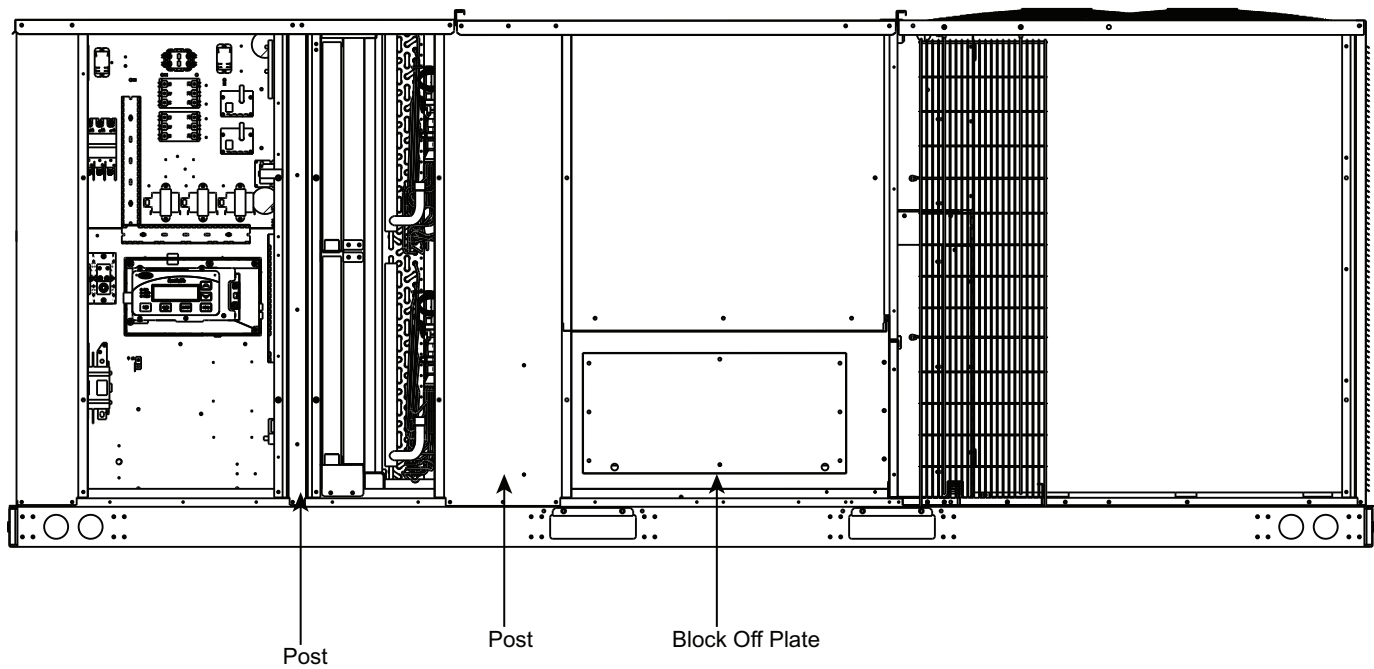

Fig. 48 — Block-Off Plate and Post Locations
3. Remove the block-off plate and save screws. Remove post adjacent to control box and post located between filter access and blower access. (See Fig. 48.)